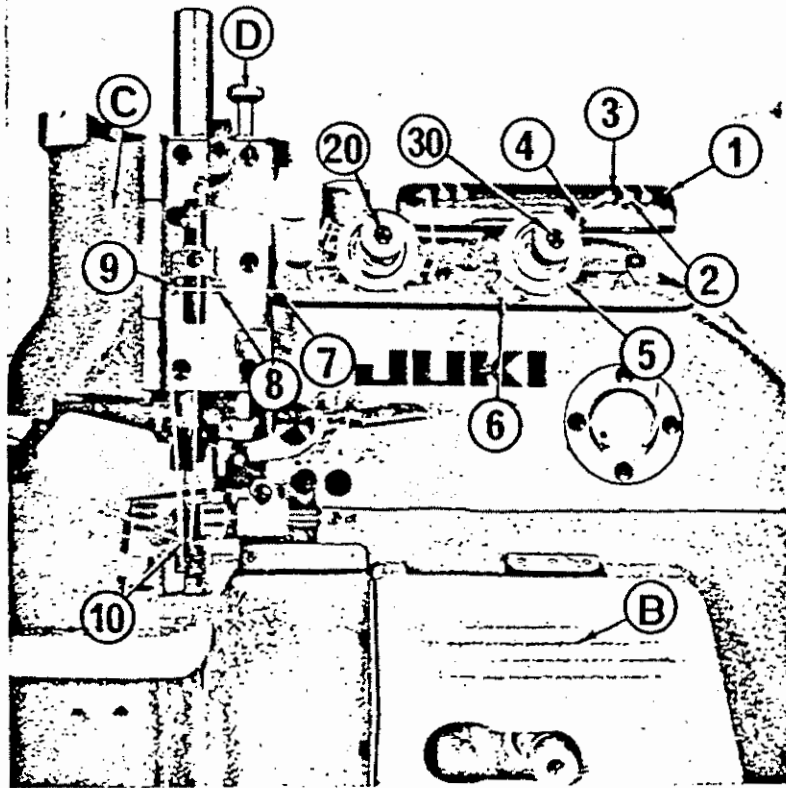

Fig. 12
- ④ To thread the safety stitch needle (Please see Fig. 12)
Open the face plate cover ③ to your left, pass the thread in the order of ①—④, through the hole of thread tension post, and from ⑤—⑩ in order as shown in Fig. 12.
- ⑤ To thread the safety stitch looper
[1] Adjust the overlock stitching needle thread by 29 of Fig. 12.
- [4] Adjust the safety stitch needle thread by ③ of Fig. 12.
pressure of the presser foot can be done by turning the presser adjusting screw ④, Fig. 12.